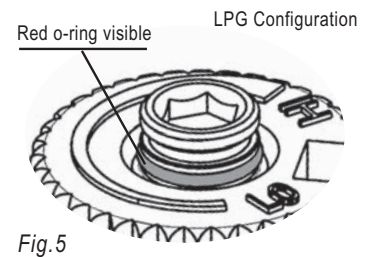

Fig. 5
16) Verify that if the conversion is from NG to LPG, the screw must be re-assembled with the red o-ring visible (Fig. 5).